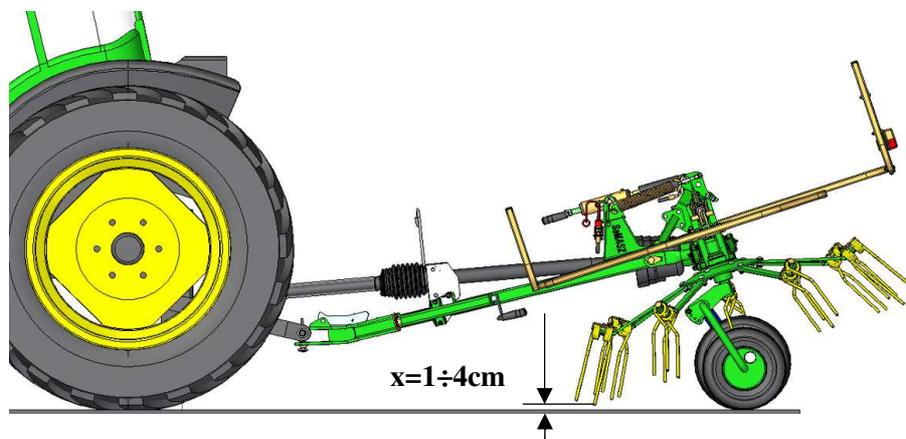

Fig. 19. Trailed tedder in working position
- ❑ if need be, by means of tractor's lower links lower or lift the 3-point linkage beam or hitch (for: **P6-771C**), set it, so that the distance between tines and the ground is between 0.39' 1 and 1.6' (4 cm) (**Fig. 19**).